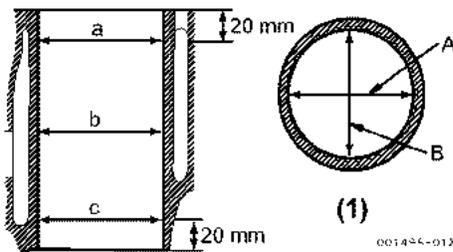

Figure 5-60
- Measure at 20 mm (0.8 in.) below the top of the cylinder bore (**Figure 5-60, (a)**).
- Measure at the center of piston travel (**Figure 5-60, (b)**).
- Measure at 20 mm (0.8 in.) from the bottom of the skirt in both directions (**Figure 5-60, (A), (B)**).
Use a Dial Bore Gauge to measure the cylinder bore diameters. Measure the cylinder bore twice at right angles at position A and B, shown in (**Figure 5-60**).
- First two measurements, at position (**Figure 5-60, (a)**) at the top of the cylinder bore.
- Second two measurements, at position (**Figure 5-60, (b)**) in the middle of the cylinder bore.
- Third two measurements, at position (**Figure 5-60, (c)**) at the bottom of the piston ring travel in the cylinder bore.